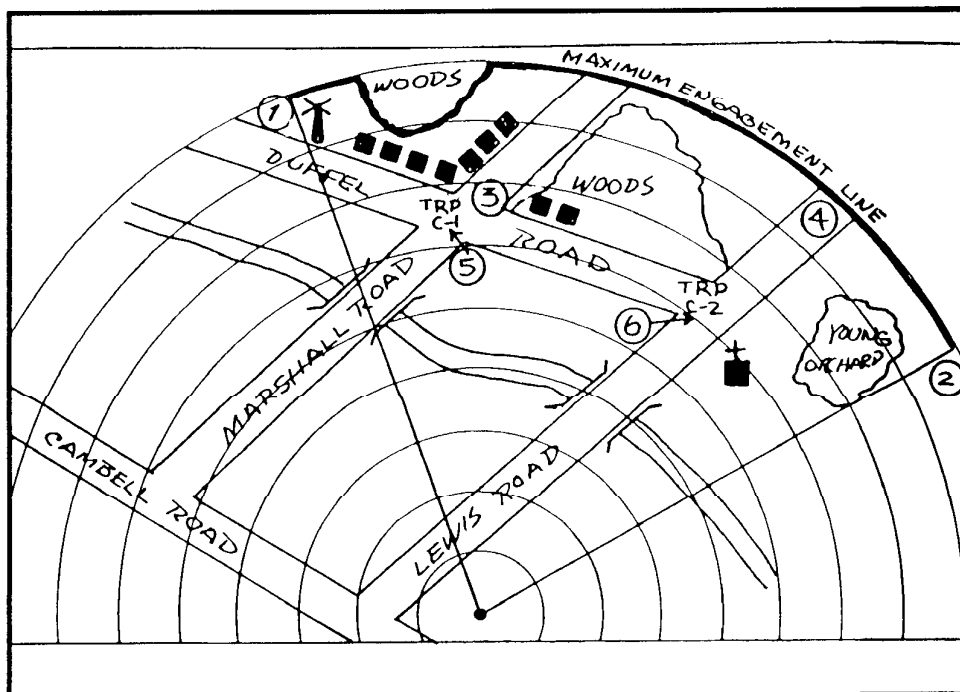

Figure E-6. Target reference points and numbers.
e. Number the TRPs from left to right. Place the number below or next to the TRP on the range card and circle the number (Figure E-6, page E-6).